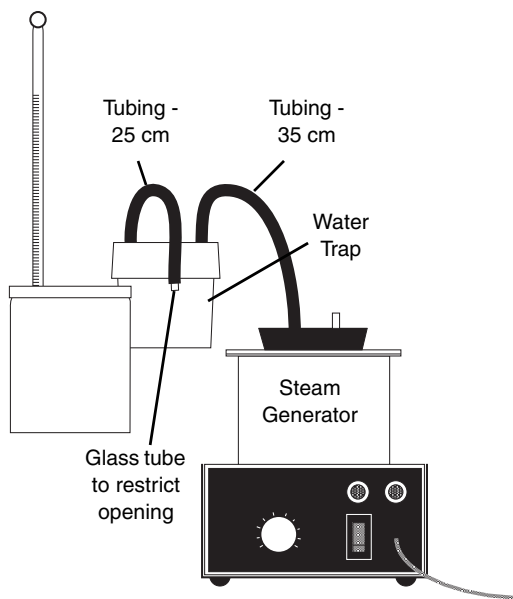

Figure 3.1
2. Set up a steam generator with a water trap as shown in Figure 3.1. The tube lengths should be approximately as shown in the figure.